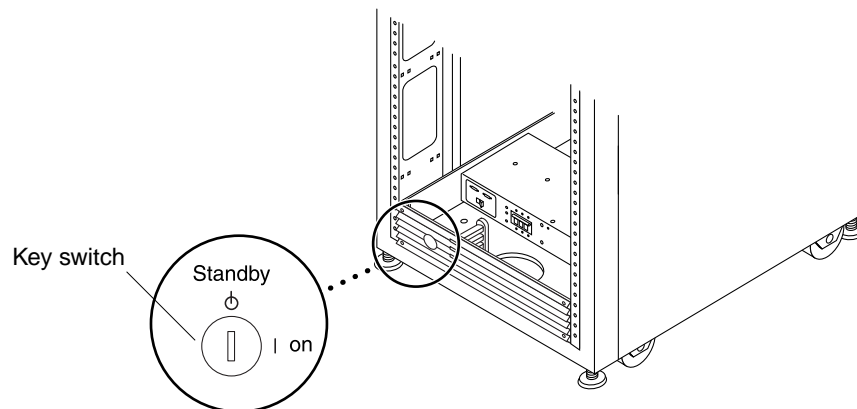

FIGURE B-7 Location of Key Switch on Bottom Front Panel
3. **Verify that the key switches located at the bottom front of the base system and any expansion cabinet are in the Standby position (FIGURE B-7).**